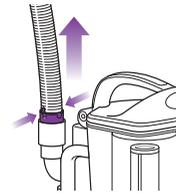

Fig. 27
- Detach the stretch hose from the back of the detachable canister by squeezing the tabs together and pulling up. **(Fig. 27)** Straighten out the hose and look inside for blockages.